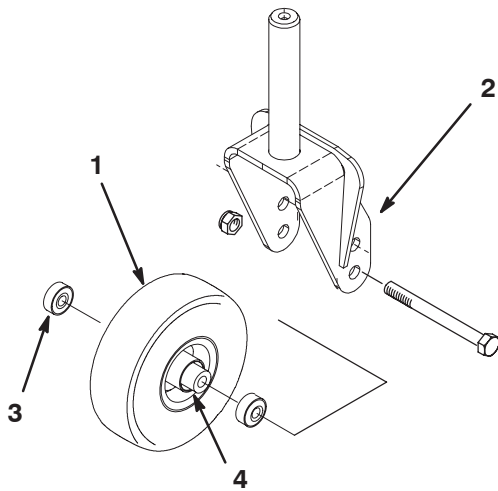

Figure 31
- Remove the locknut from the capscrew holding the castor wheel assembly between the castor fork (Fig. 31). Grasp the castor wheel and slide the capscrew out of the fork or pivot arm.
2. Remove the bearing from the wheel hub and allow the bearing spacer to fall out (Fig. 31). Remove the bearing from the opposite side of the wheel hub.